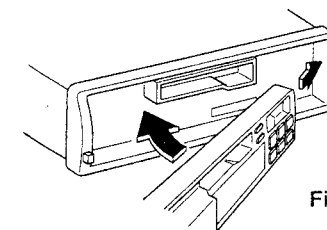

Fig. 4
1. Check that there is no dirt, etc., in the grooves on the ends of the detachable unit. Insert the right side of the detachable panel first, as shown in Fig. 4.